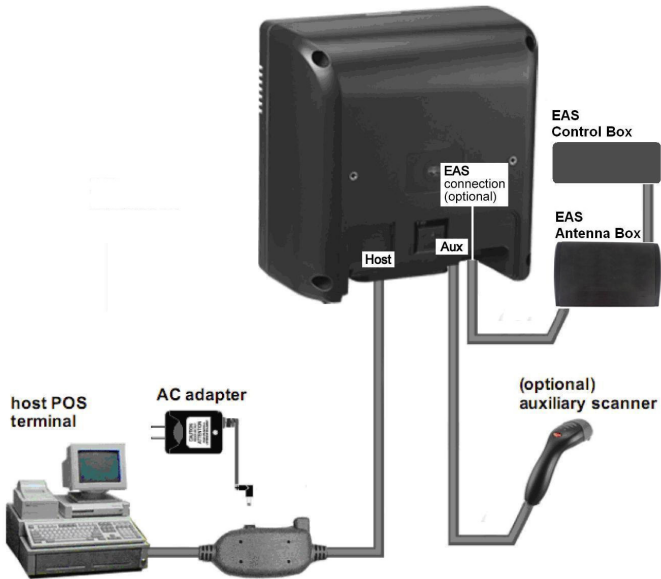

Figure4: Cable Installation
Follow the steps below when you need an external power connection to the scanner (Refer to Figure 4):
2. Plug the cable to the appropriate connectors on the scanner and the EAS system as illustrated in Figure 4.